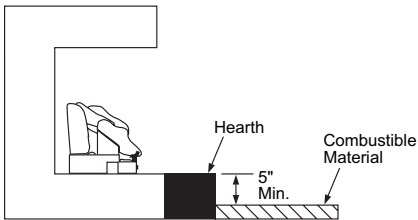

Figure 9 - Minimum Fireplace Clearances Above Combustible Flooring
- B. If combustibles materials are less than 14" to the fireplace, you must install appliance at least 5" above the combustible flooring (see Figure 9).